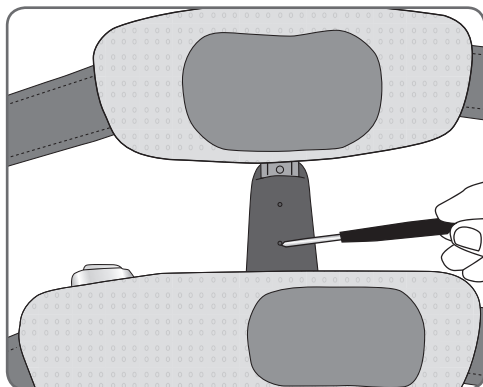

Figure 10-4: Removing the Thigh elongation bar lock.
2. Using the Phillips screwdriver, push the Thigh elongation bar lock through the elongation bar. See Figure 10-4.